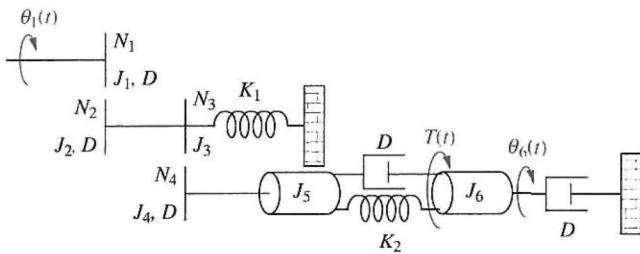

FIGURE P2.24
38. Given the rotational system shown in Figure P2.24, find the transfer function, $G(s) = \theta_6(s)/\theta_1(s)$. [Section: 2.7]